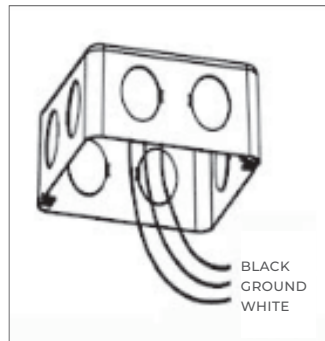

FIGURE 1
**A)** Prepare fixture for installation. (Figure 1)